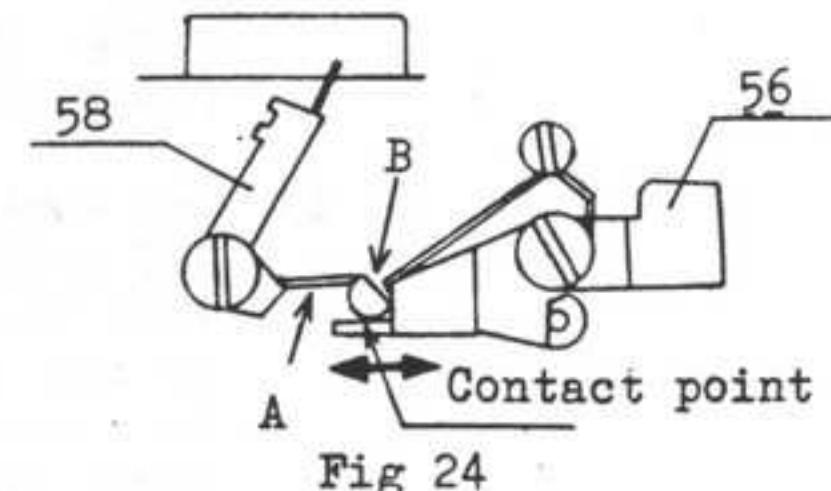

Fig 24
Adjust infinity of lens. (Refer to 8-2.) Turn Focusing wheel (8) to set helicoid at ∞ . View the finder and make sure if the needle is at the center of \wedge . (Fig. 23) When it is not just at the center, bend the part A to have it come to the center. (Fig. 24) Focus at 1 meter (3.3 feet) (◎) or 2 meter (7 feet) with a focusing glass (K204010), view the finder and make sure if the needle is at the nose of ◎ or 2 meter (7 feet). When it is out of place, bend the part B for adjustment. (Fig. 24) Since ∞ position may become inaccurate after adjustment, recheck is necessary. This adjustment needs to enlarge the moving range of the needle, which will be done by moving the contact point of Focusing needle lever (58) in the direction of \longleftrightarrow from the fulcrum of Cam follower (56).